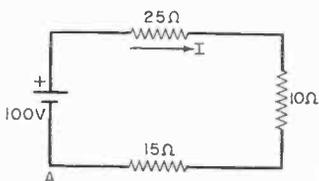

Fig. 6
**C. Series Circuit.** A series circuit is a network where the same current flows in each element. An example of a series circuit is shown in Fig. 6.
voltage across the 10-ohm resistor in the series circuit in Fig. 6. Sol. It is necessary to distinguish the direction of current flow and the polarity of voltage sources in the application of Kirchhoff's voltage law. The convention used here is: (1) A minus sign precedes a voltage quantity in going around a closed path from a low to a high potential or against the direction of indicated current flow.
(2) A plus sign precedes a voltage quantity in going around a closed path from a high to a low potential or with the direction of indicated current flow. (3) The assumed direction of current flow is arbitrary. (a) Referring to Fig. 6, assume that we start at point A and go around the closed path clockwise (with the direction of indicated current flow). Then, according to the voltage law and the conventions we have adopted,  $-100 + (25 + 10 + 15)I = 0$  or  $I = 100/50 = 2$  A. (b) From Ohm's law, the voltage across the resistor is  $V = IR = 2(10) = 20$  V.